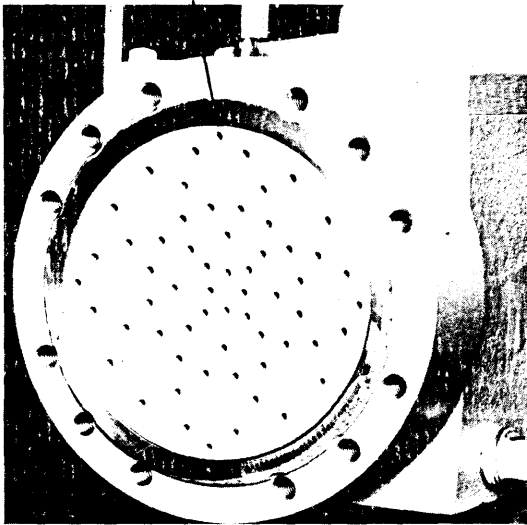

Figure 11
9. Make sure the pump head dish plate is reset in the pumphead with the cavity on the diaphragm side and one of the four holes closest to the outer edge positioned at the top to permit air to bleed out of the cavity when priming. (Figure 11)